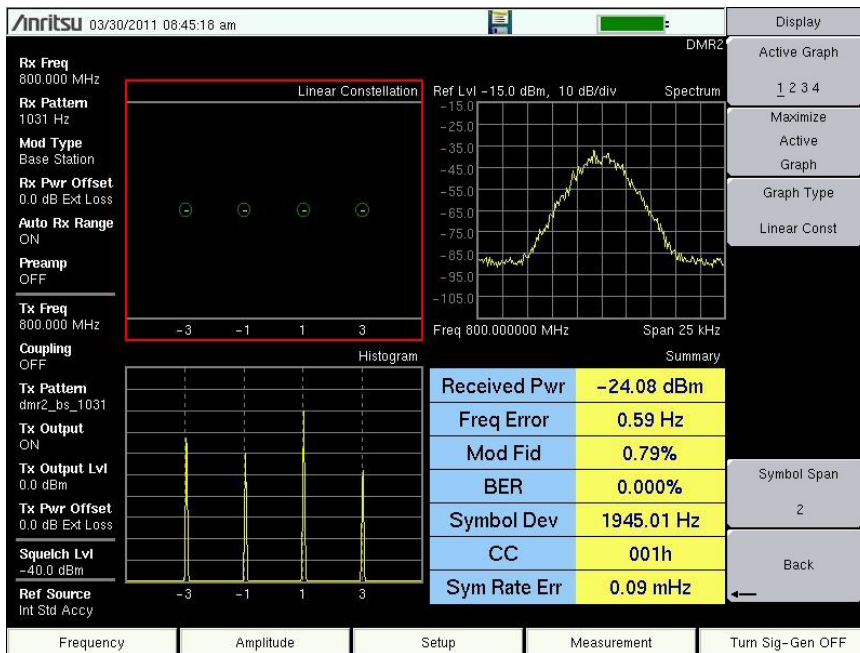

Figure 3-11. Analyzer Measurements (Active Graph has the Red Outline)
- Press the **Measurement** main menu key, then press the NBFM Analyzer submenu key. Press Graph Type to set the displayed graph types (Figure 3-11).
1. Press the **Measurement** main menu key, then press the P25 Analyzer, P25p2 Analyzer, NXDN Analyzer, DMR 2 Analyzer, PTC Analyzer, or the TETRA Analyzer submenu key. Press Graph Type to set the displayed graph types (Figure 3-11).